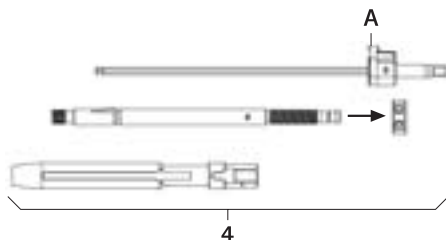

Fig. 2
- Dismantle reduction lever 4, see Fig. 2: Press button A firmly and remove screwdriver FW234R.